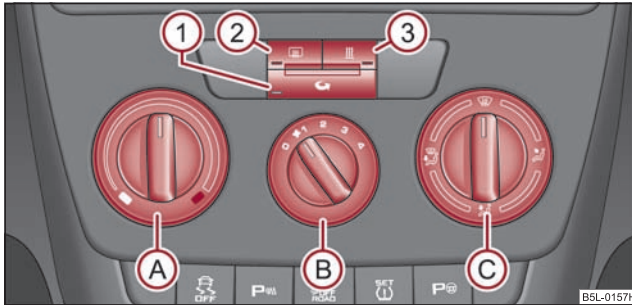

Fig. 103 Heating: Control elements
- Turn the control dial (A) ⇒ fig. 103 to the right in order to increase the temperature.
- Turn the control dial (A) to the left in order to decrease the temperature.
- Controls Ⓐ, Ⓑ, Ⓒ and the button ① ⇒ page 91, fig. 103.
- Press the button  - the warning light lights up in the button \Rightarrow page 91, fig. 103.
The recirculated air mode is switched off automatically if the air distribution control  is in position  \Rightarrow page 91, fig. 103. You can also switch recirculated air mode on again from this setting by repeatedly pressing pushbutton .